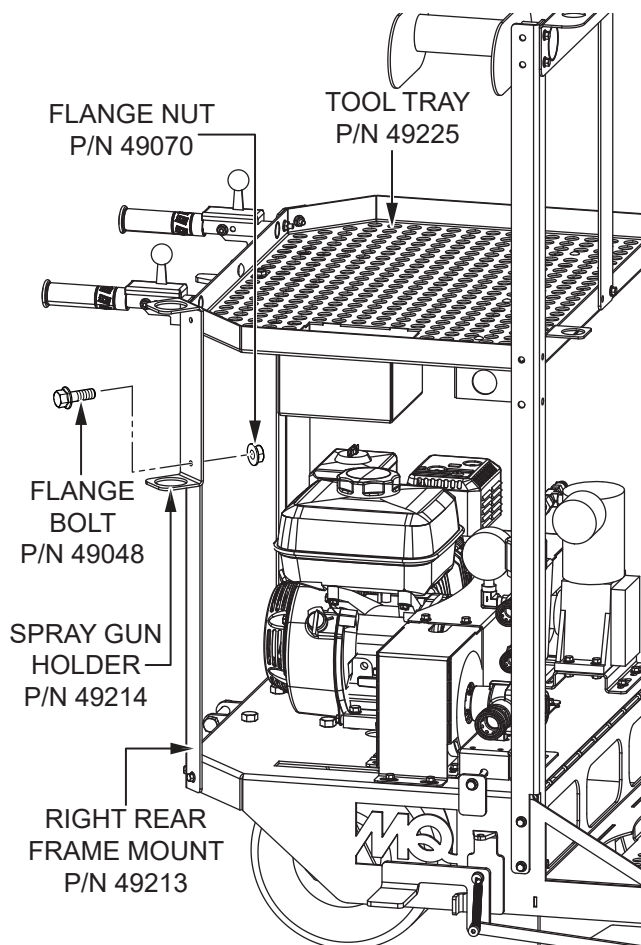

Figure 12. Spray Gun Holder Installation
9. Secure the spray gun holder (P/N 49214) to the right rear upright frame mount (P/N 49213) and tool tray (P/N 49225) with two 1/4-20 x 3/4" flange bolts (P/N 49048) and two 1/4-20 flange nuts (P/N 49070). See Figure 12.